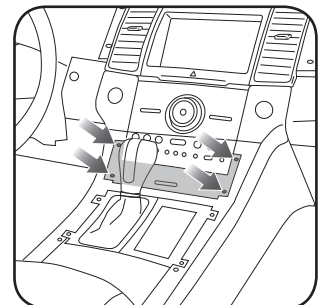

Fig. 1.6
10. Remove four (4) 7mm screws securing the ashtray assembly. Unclip and remove it. (Fig. 1.6)